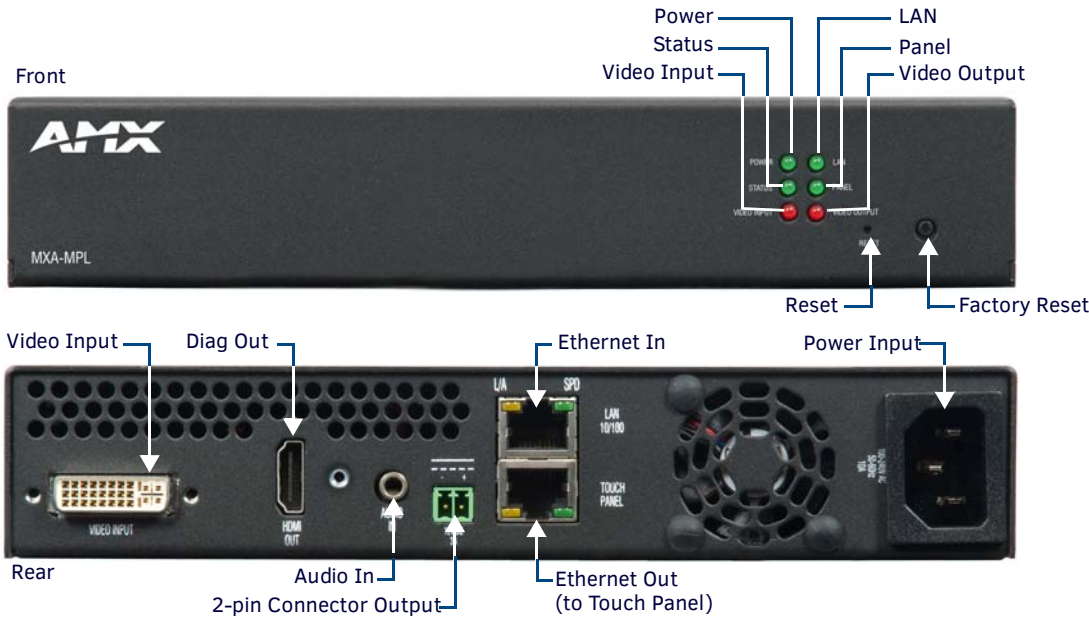

FIG. 1 MXA-MPL
The MXA-MPL (**FG5968-10**) is a touch panel accessory that displays a HD digital video stream on Modero X Series Touch Panels when used in conjunction with an Enova DVX All-In-One Presentation Switcher or Enova DGX Digital Media Switcher (FIG. 1). The MXA-MPL accepts digital video inputs over HDMI and converts them to a video stream. The MXA-MPL also supports all of the features of the MXA-MP, displaying up to 10 JPEG preview images on a Modero X Series touch panel. The MXA-MPL makes it easy for users to make quick identification of what is currently being displayed by up to 10 source devices.
4. When the installation is complete, apply power to the device and to the touch panel. Verify via the LEDs on the front of the device (FIG. 1) that it is receiving power and is connected to the network.
3. If the touch panel accepts external power, power to the touch panel may be supplied via the device's 2-pin connector output (FIG. 1) or through another source.